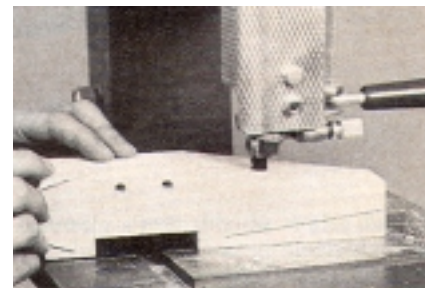

Fig. 1 Drilling the engine cylinder holes 1/2-in. back from the nose.
2: Drill the holes for the engine cylinders (K). Locate them 1/2" back from the front of the nose (See Fig. 1). Tilt the Drill Press table to 20-degrees and drill the holes in the fuselage (A) and the shock absorbers (F) for the wing struts (N).